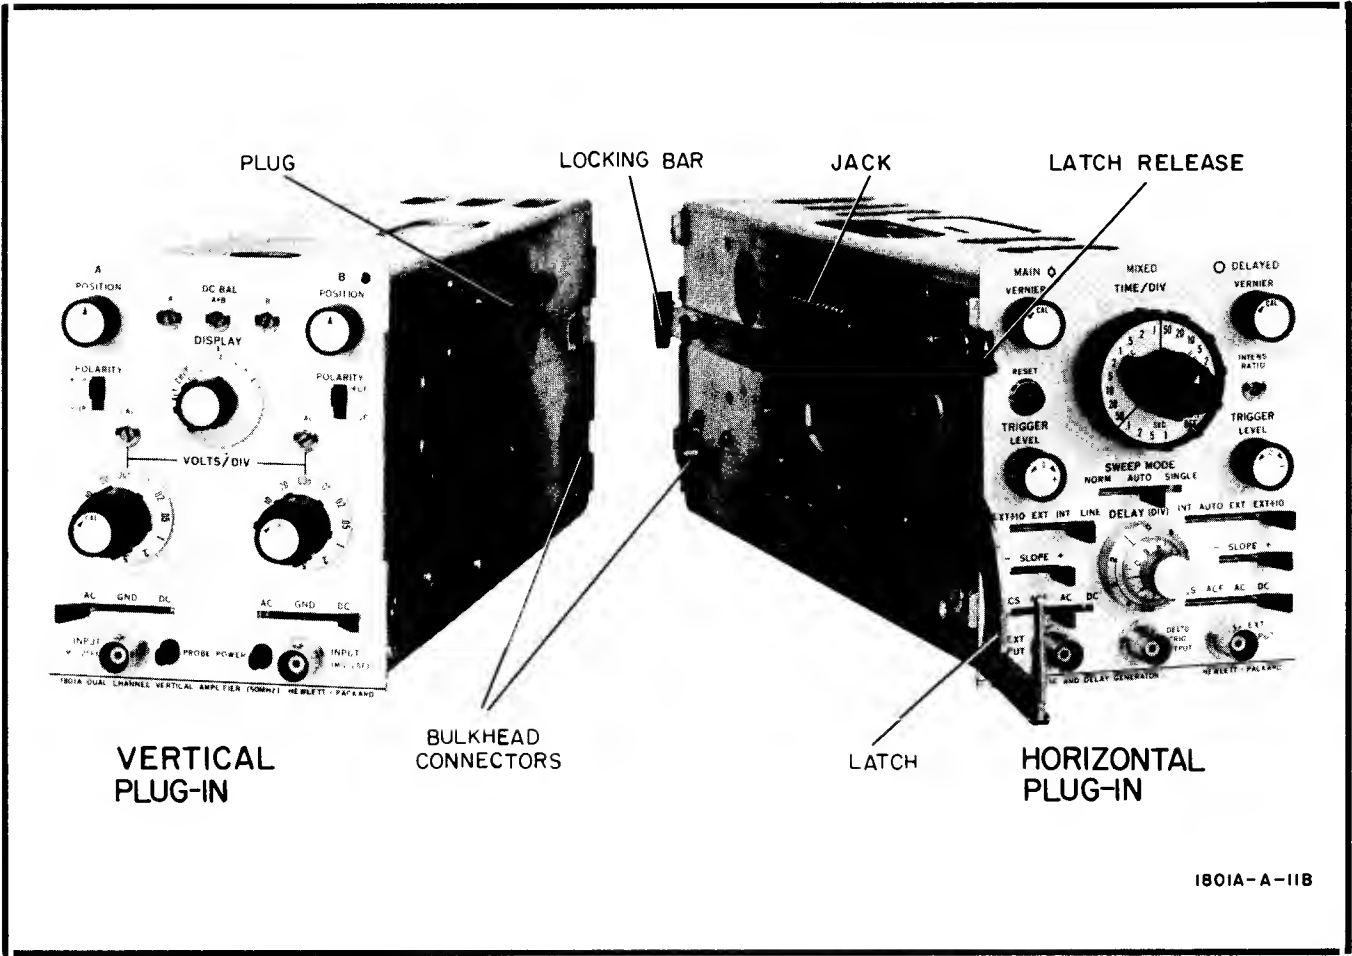

Figure 2-1. Plug-In Mating
a. Move locking bar to rear (see Figure 2-1).